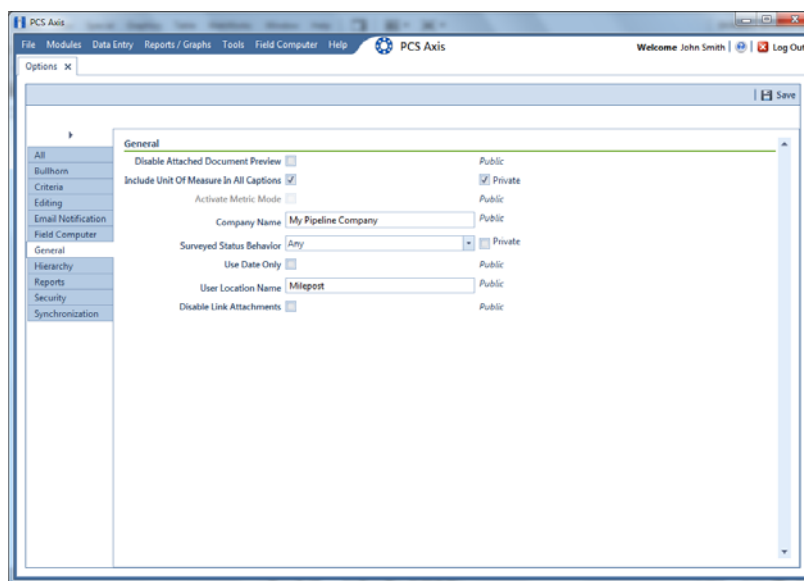

Figure 3-11. General Options
- 2 Click the **General** tab to open the *General* options page (Figure 3-11).